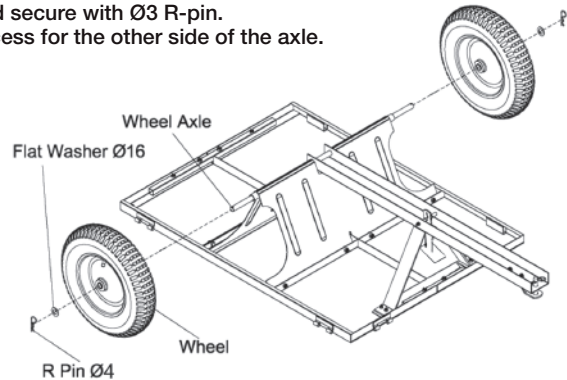

Fig. 5
STEP 5: Attach the Wheels (See Fig. 5)